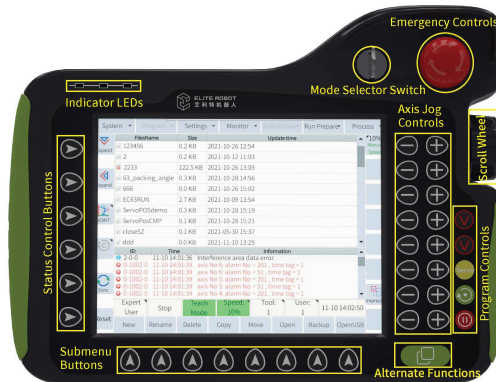

Figure 3-10 : Layout of teach pendant (front)
The front view of the teach pendant is shown in **Figure 3-10**.
6. Press the +/- button of the desired axis jog button (see **Figure 3-10**)